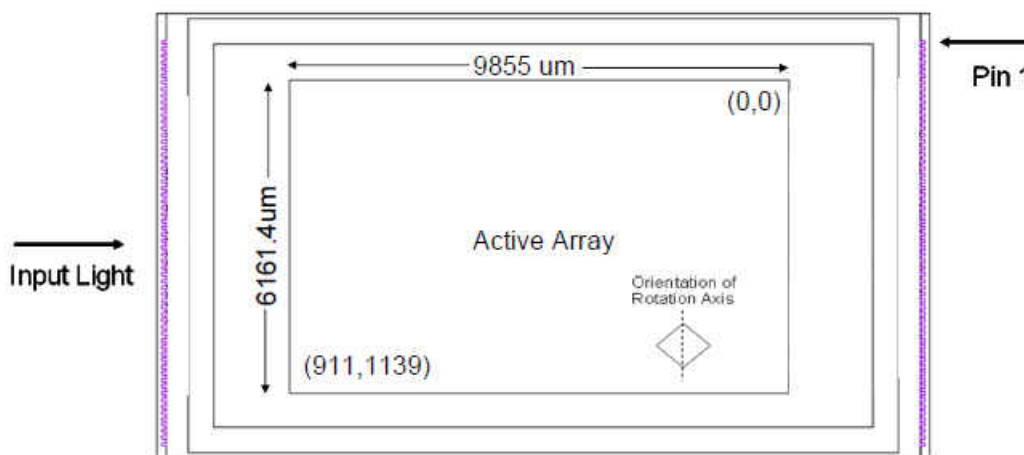

Figure 7-4. DLP4500NIR Micromirror Active Area
- (1) The mirrors that form the array border are hard-wired to tilt in the -12° ("Off") direction once power is applied to the DMD (see Micromirror Array, Pitch, and Hinge-Axis Orientation and Micromirror Landed Positions and Light Paths).
- (2) See Micromirror Array, Pitch, and Hinge-Axis Orientation.
- (3) See Micromirror Active Area in Figure 7-4.